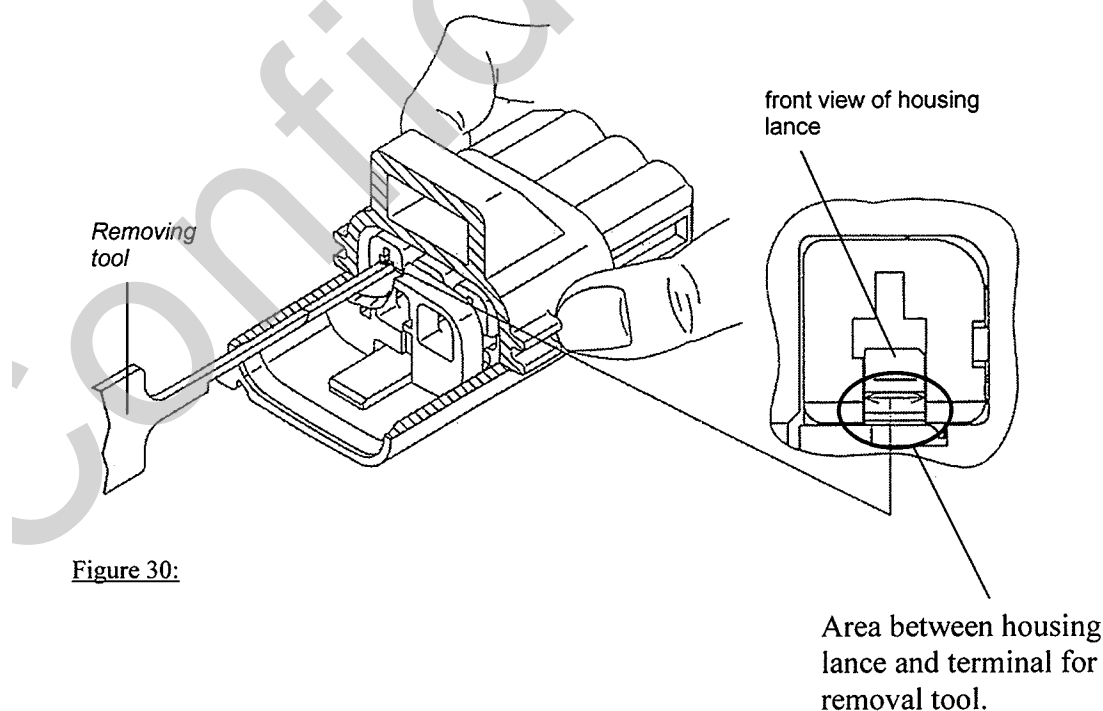

Figure 30:
- Insert the removal tool into the terminal cavity as shown in figures 30 and 31. The tip of the tool must be positioned between the housing lance and the terminal.